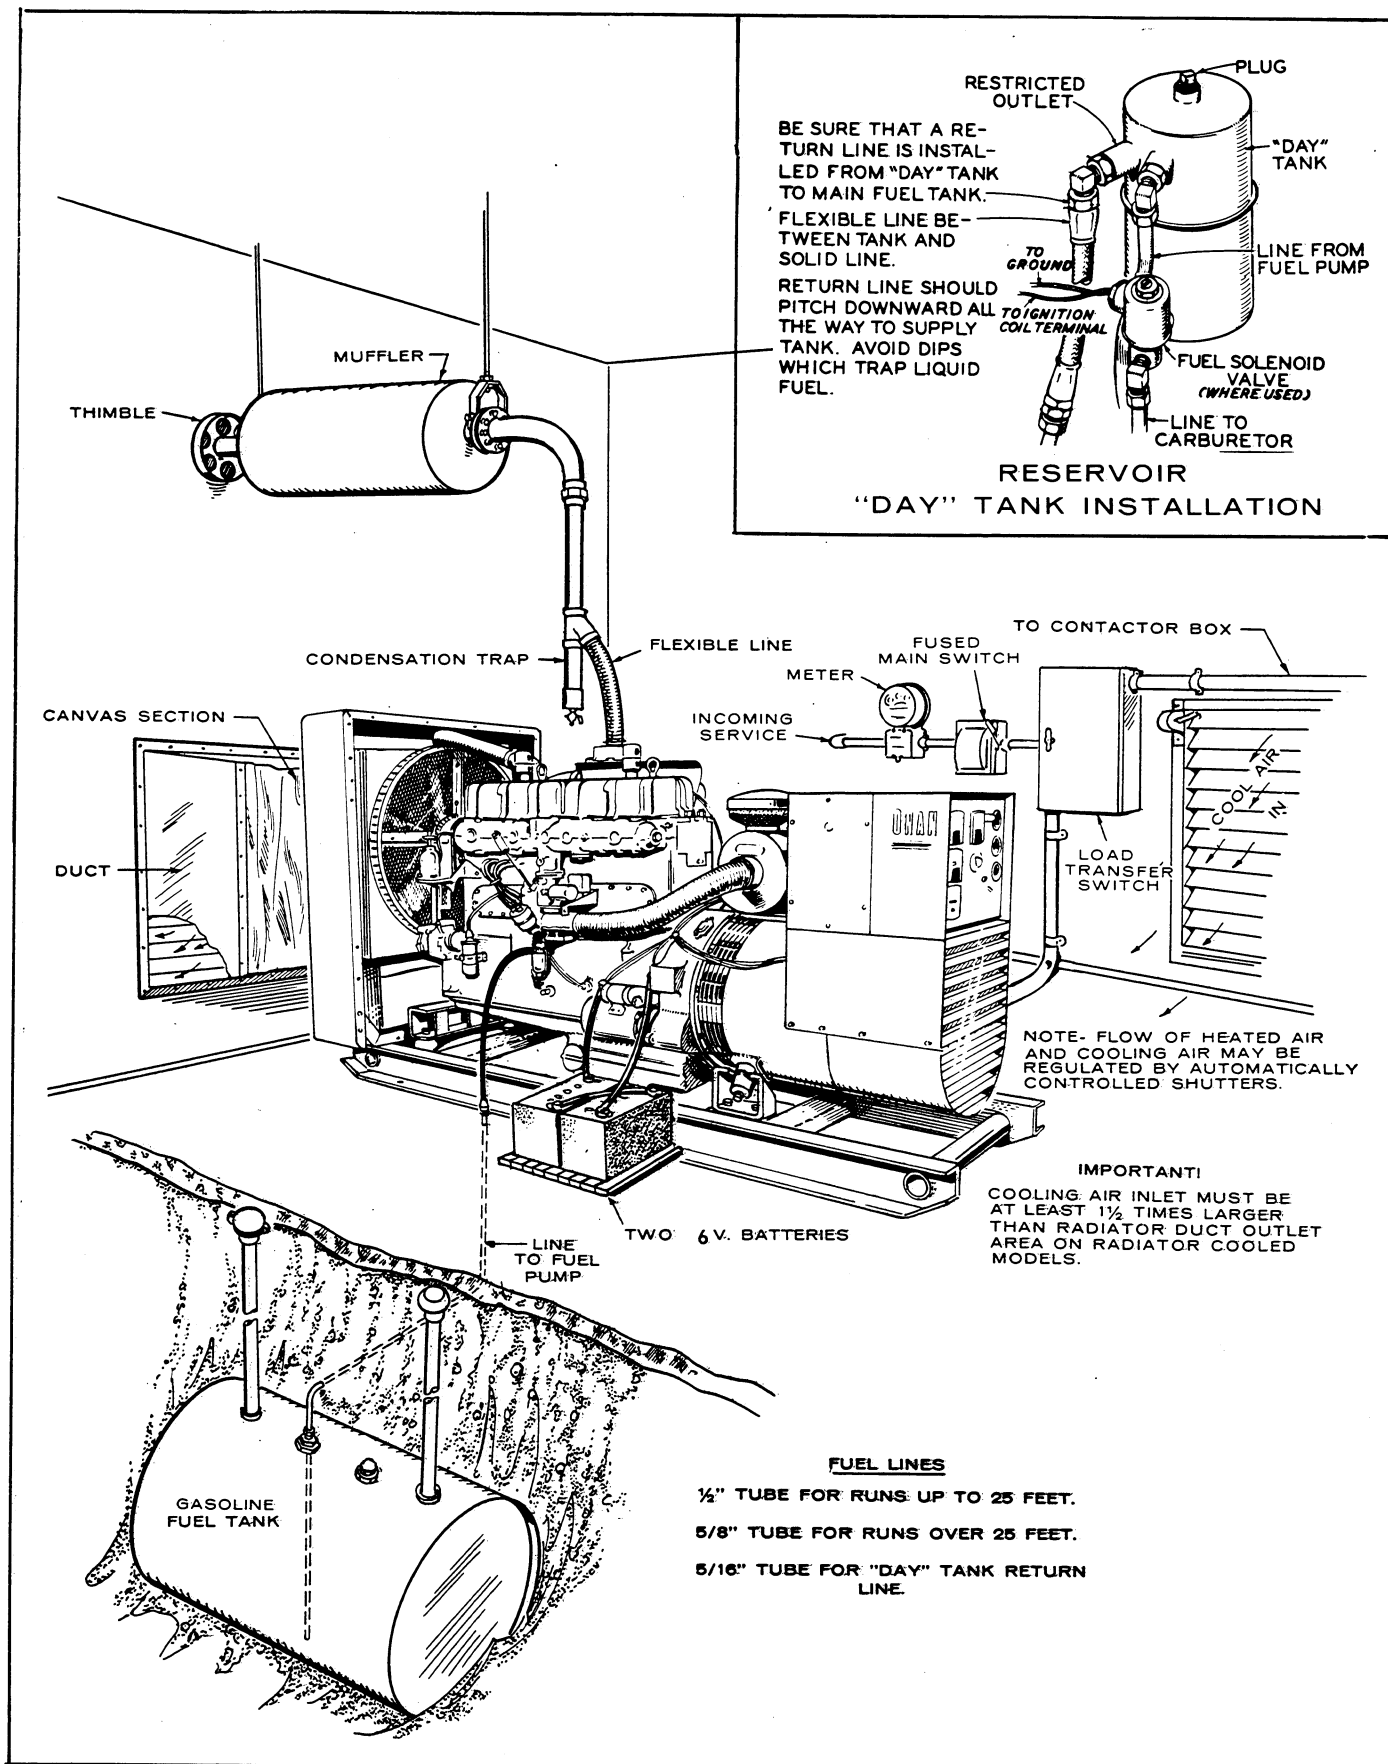

FIGURE 4. TYPICAL INSTALLATION — GASOLINE FUEL, RADIATOR COOLED
Installations must be considered individually. Use these instructions as a general guide. Meet regulations of local building codes, fire ordinances, etc., which may affect installation details. See Figures 4 through 7 for typical installations.
1. **Gasoline Fuel (Figure 4):** Use 1/2 inch tubing to connect the engine fuel pump inlet to an approved fuel tank installation. If the set is equipped with the one-quart "DAY" reservoir tank above the carburetor, install a fuel return line (5/16 inch tube size) to return excess fuel to the supply tank. Be sure this line has a continuous drop to the supply tank, avoiding traps.